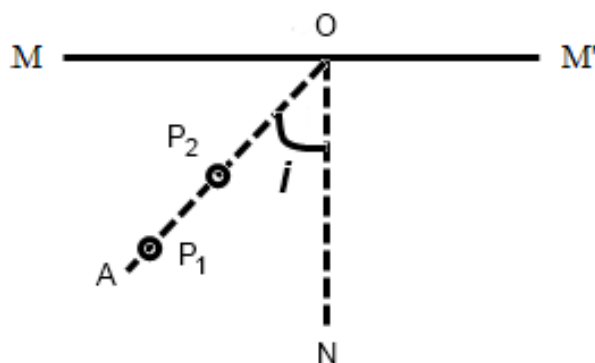

Figure 4.22: Law of Reflection practical setup
3. Draw a perpendicular line on the midpoint of MM and call it ON as seen in Figure 4.22. This line is called a normal line.